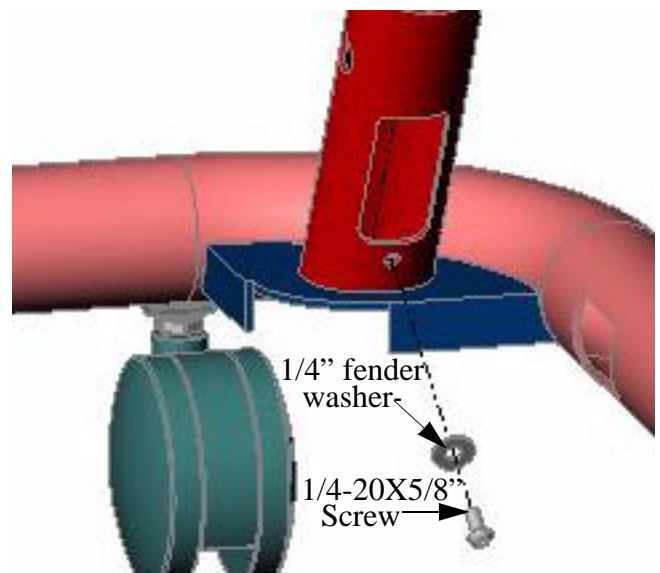
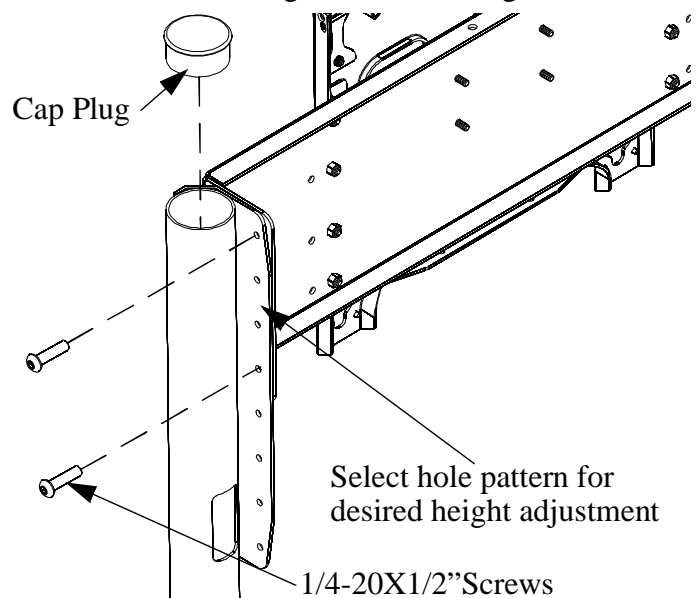

Figure 4. Install Legs
Figure 6. Install Mounting Head and Cap Plugs
2. Place base upright on casters. Install right leg (20) and left leg (30), making sure the mounting tabs face inward (see Figure 4). Secure legs using two 1/4" fender washers (80), two lock washers (81), and two 1/4-20X5/8" screws (90).
6. Install cap plugs in base (see Figure 4) and on top of each leg (see Figure 6).